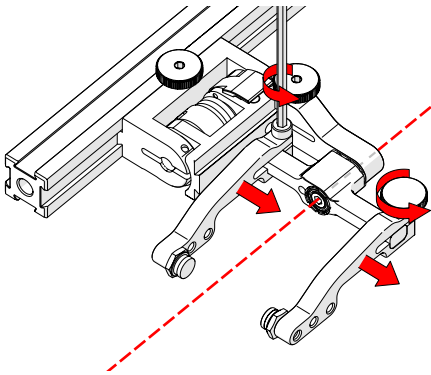

Fig. 106 - Adjust probe holder arms
5. Loosen the probe holder arm adjustment knob (Fig. 106) and remove outer probe holder arm from yoke.
6. Adjust the inner probe holder arm as required to best centre the probe on the yoke's pivot axis (Fig. 106).
TIP: The probe holder yoke can accommodate many different probe and wedge sizes of varying widths. It is best to centre the wedge with the yoke's pivot axis to reduce wedge tipping when scanning. Position the inner probe holder arm accordingly with the centre of the yoke (Fig. 106).